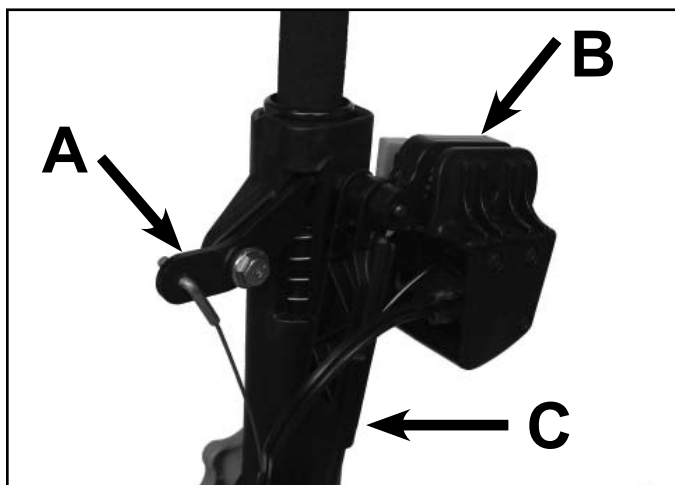

Fig 254
3. Slide the pivot assembly, bail and the brake cable to the right until the bail slides off the pin (Fig. 254).